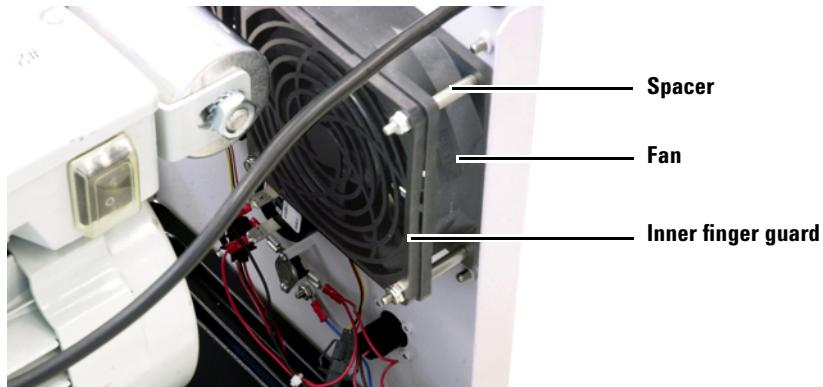

Figure 9 Fan, showing mounting-screw after assembly
- 4 Install a fan spacer into the fan, and slide the screw all the way in. Then install the fan and inside finger guard (countersinks facing fan) over the screw. Install the remaining screws and spacers. (See Figure 9.)